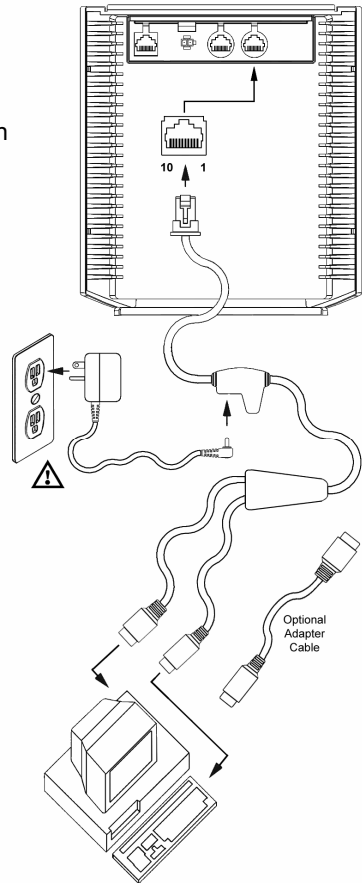

Figure 2. Keyboard Wedge Interfaces
3. Connect the PowerLink cable to the 10-pin KBW interface jack. It is the 2nd **round** opening from the left side of the MS7320 (see figure 2).